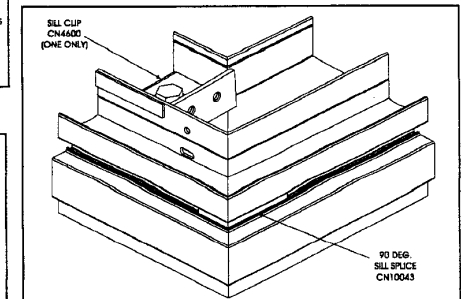

FIGURE 7-9
7.7 Locate and install all sill angle clips on front sill as detailed in **Figures 7-9 & 7-10** and **Drawing No. 4E1505, page 62**. Wood or metal blocking below fasteners by others.